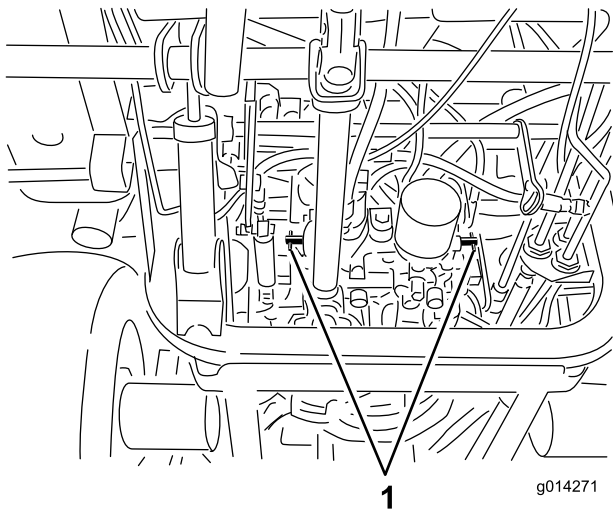

Figure 34
4. Rotate each by-pass valve counterclockwise 1 turn (Figure 34).
Rotate each by-pass valve clockwise 1 turn and hand tighten them (torque of approximately 71 in-lb (8 N-m)) (Figure 34).